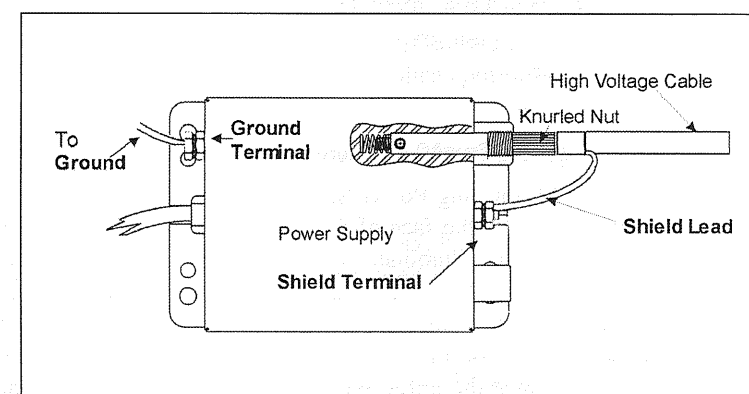

Figure 18
2. Insert SLCC high voltage connector in female port on the power supply and finger-tighten (see Figure 18 for TrueAC).
2. For "D" remove ground wire of cable assembly from ground terminal. For TrueAC, remove shield wire of cable assembly from shield terminal (see Figure 18).
Short bar sensor return to ground	Make sure all bar connections comply with figure 18, and there are no ground connections to the Shield terminal. If all connections are correct, then replace the bar.